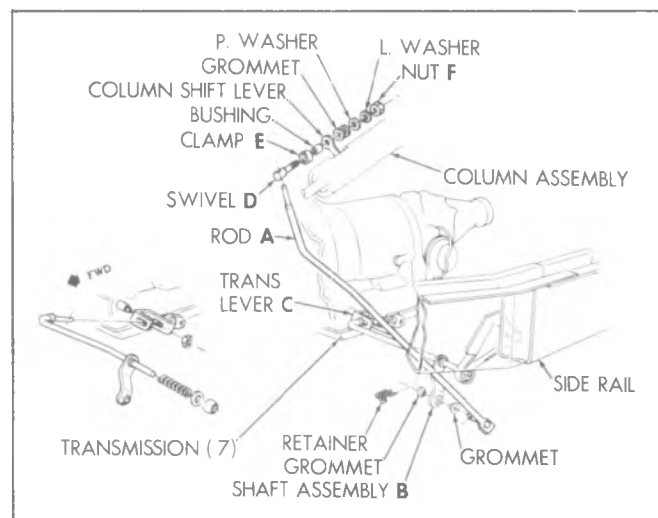

Fig. 7A-5B--Column Shift Linkage-G Series
4. Attach rod (A) to shaft assembly (B) as shown (Fig. 7A-5B).
5. Slide swivel (D) and clamp (E) onto rod (A) align the column shift lever and loosely attach as shown.